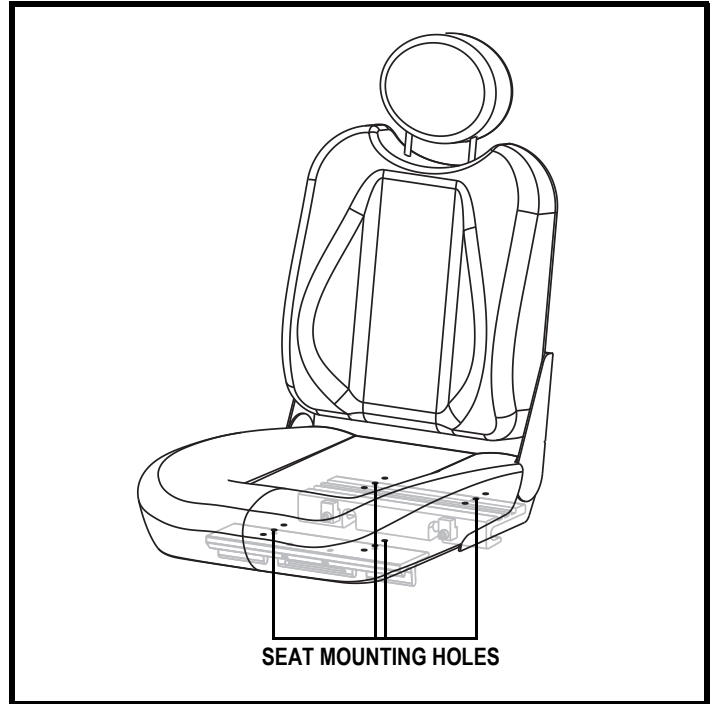

Figure 13. Seat Position Adjustment
- Reposition the extrusions on a different set of mounting holes. You must move both extrusions the same number of holes either forward or backward. **See figure 13.**